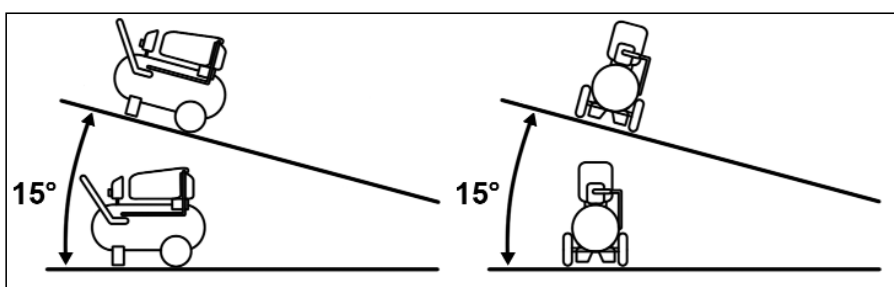

fig 1
- 3.4 The compressor should be operated on a flat surface, or one that does not exceed 15° either transversely or longitudinally (fig 1), and should be in a position that allows good air circulation around the unit.